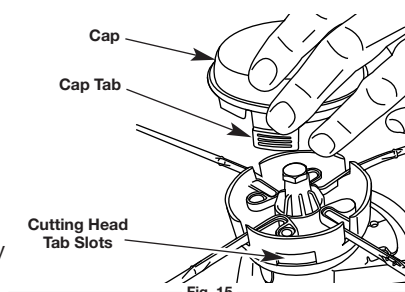

Fig. 15
8. Replace the cutting head cap, making sure to align the cap tabs with the cutting head tab slots. (Fig. 15)